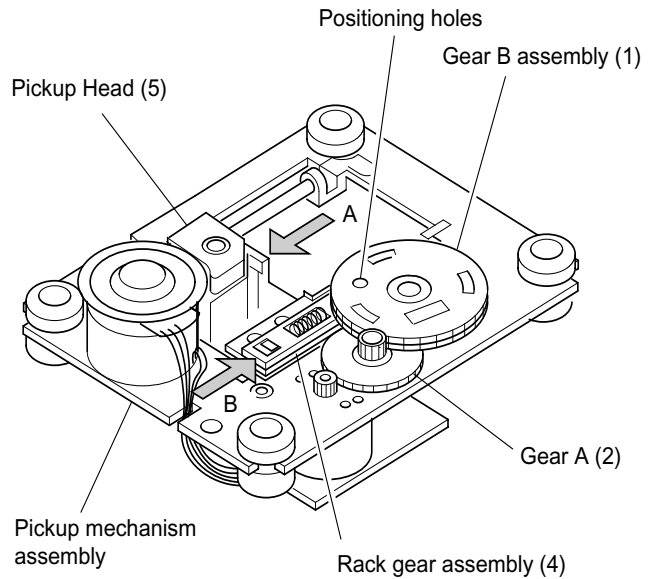

Fig. 2-1-21
2. Mount the gear B assembly (1) by pushing the pickup head (5) to the disc motor side (arrow A direction) and shifting the upper gear of the rack gear assembly (4) in the arrow B direction. (Refer to Fig. 2-1-21.)